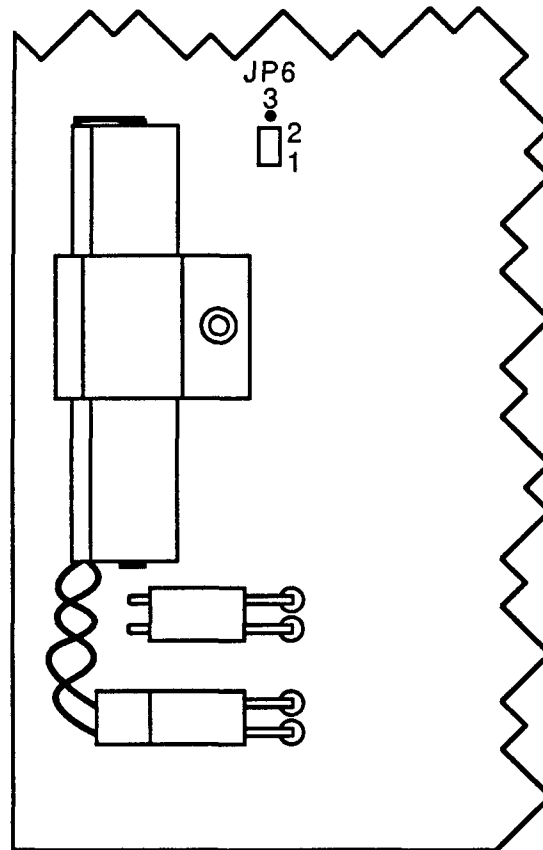

Figure 5.4 BATTERY MOUNTING CLIPS AND CONNECTORS
- To install a new battery (refer to Figure 5.4) on a memory board proceed as described below.